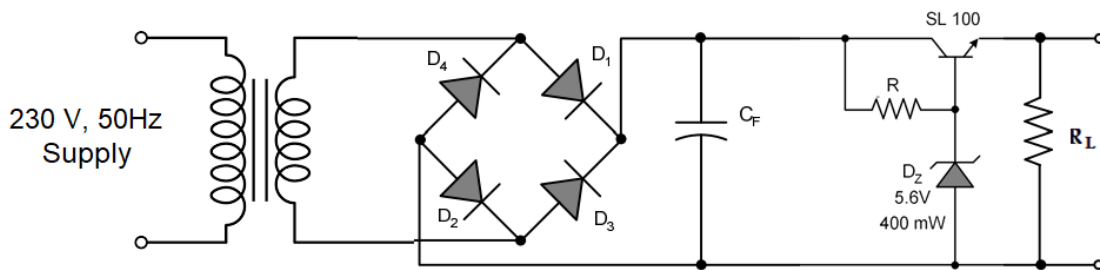

Figure 3: Linear Power supply
1. Connect the circuit as shown in Figure 3.